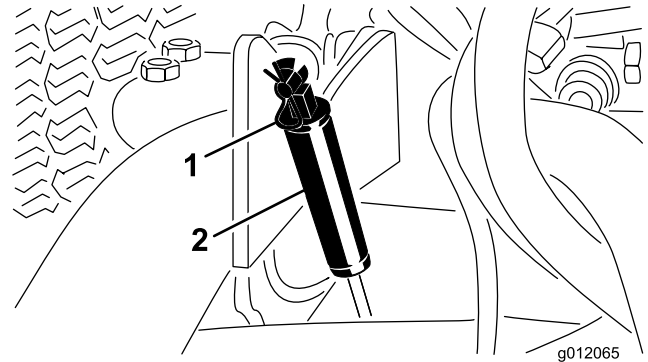

Figure 2
2. Remove the hairpin cotters securing dampers to lift arms (Figure 2). Pivot dampers toward deck housing